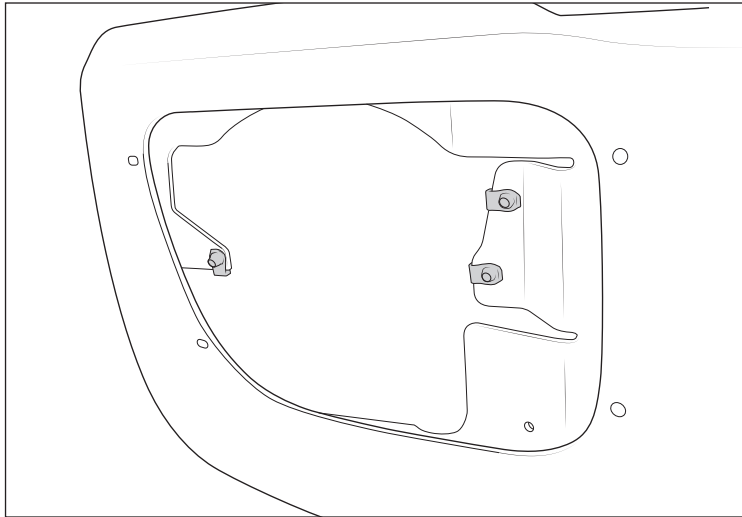

Figure 37
1. Install the supplied M6 U-nuts onto bumper corners (fig. 37).